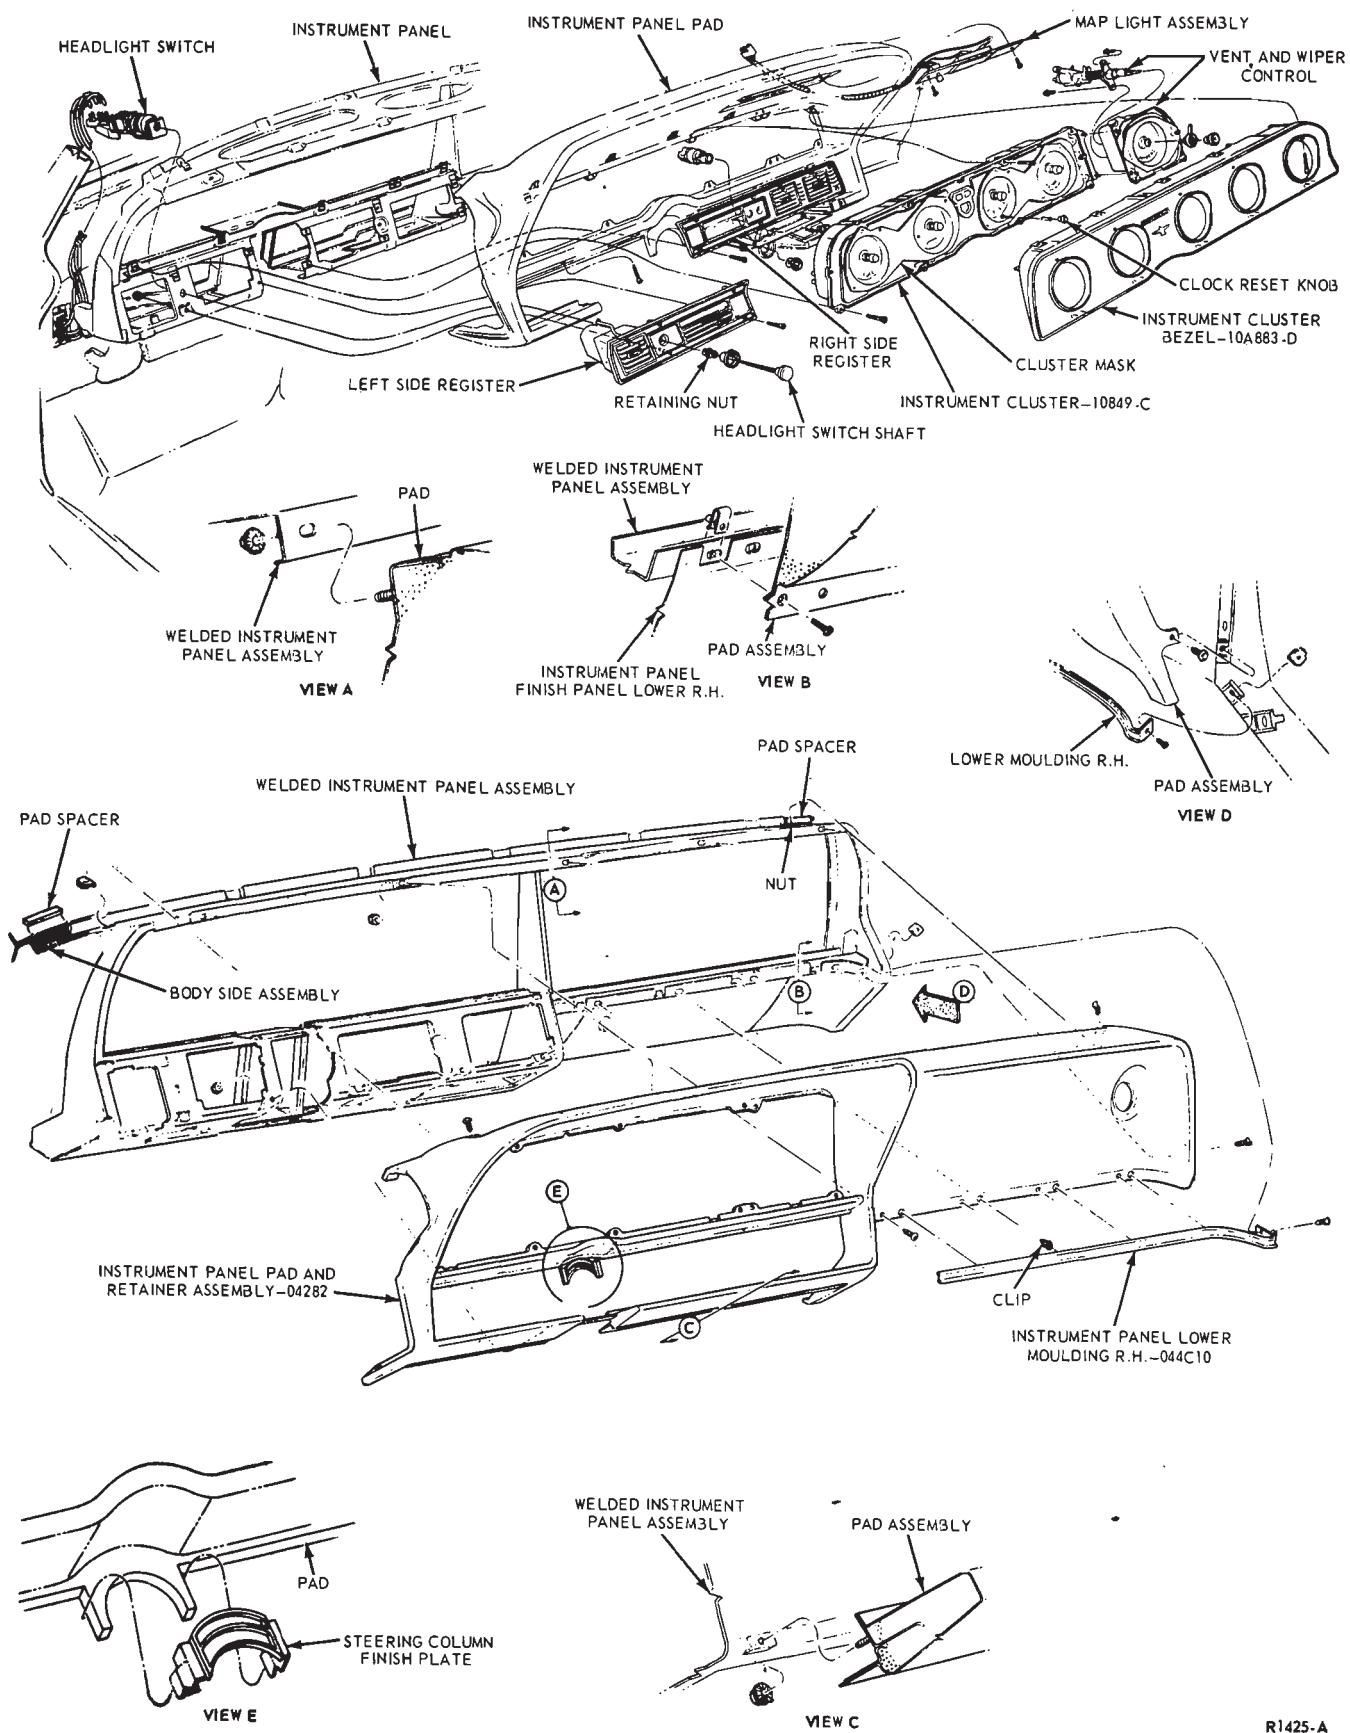

FIG. 9—Instrument Panel Pad Installation—Thunderbird
6. Remove the instrument panel left and right end finish panel retaining screws and remove the end finish panels (Fig. 9).
10. Remove the instrument cluster bezel retaining screws (5) and remove the cluster bezel.
11. Remove the clock re-set knob. Remove the instrument cluster mask retaining snap-in fasteners (8) and remove the mask.
4. Install the ten nuts (Fig. 9) which are used to retain the pad assembly to the instrument panel.
5. Install the four retaining screws along the lower right side and the retaining screw at the right end of the pad (Fig. 9).
14. Position the instrument panel end finish panels and install the end finish panel retaining screws (Fig. 9).